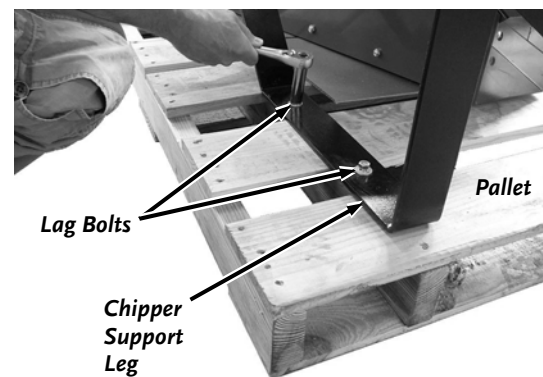

Figure 7
5. Remove the four Lag Bolts that secure the Chipper Support Legs to the Pallet (*Figure 7*).